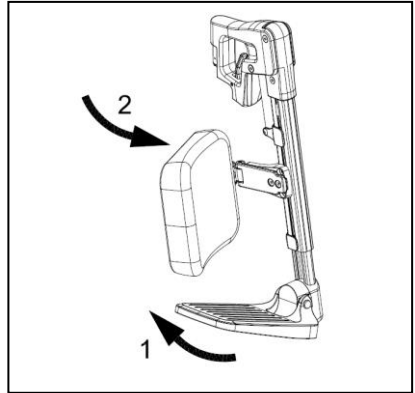

Figure 6.1
1. Flip the footplates up (fig 6.1).
2. Swing the calf plates to the side (if applicable) (fig 6.1).